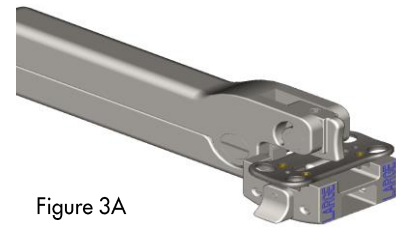

Figure 3A
2. Attach the appropriate insert, **SMALL** (66-PB-0021) or **LARGE** (66-PB-0022), to plate bender with the insert tab facing up (Figure 3A)